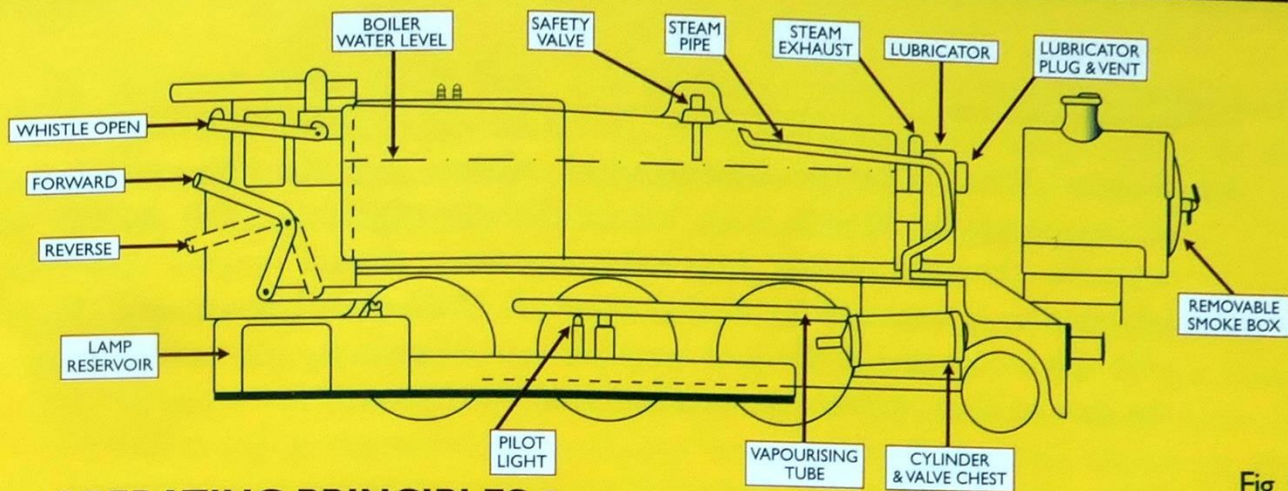

Fig. 1
3.1 **General. (Fig 1)** The working principles of this model are almost the same as that of a full scale locomotive. A methylated spirit burner mounted in the frame between the wheels boils the water in the boiler. Steam generated passes through a lubricator where it mixes with steam oil before entering the reversing valve. It is then directed into the cylinders where it provides power to move the pistons. This piston movement is converted by the connecting rods and cranks into rotation of the wheels. A system of rods and levers to separate cranks operates valves, which regulate the flow of steam in and out of the cylinders.